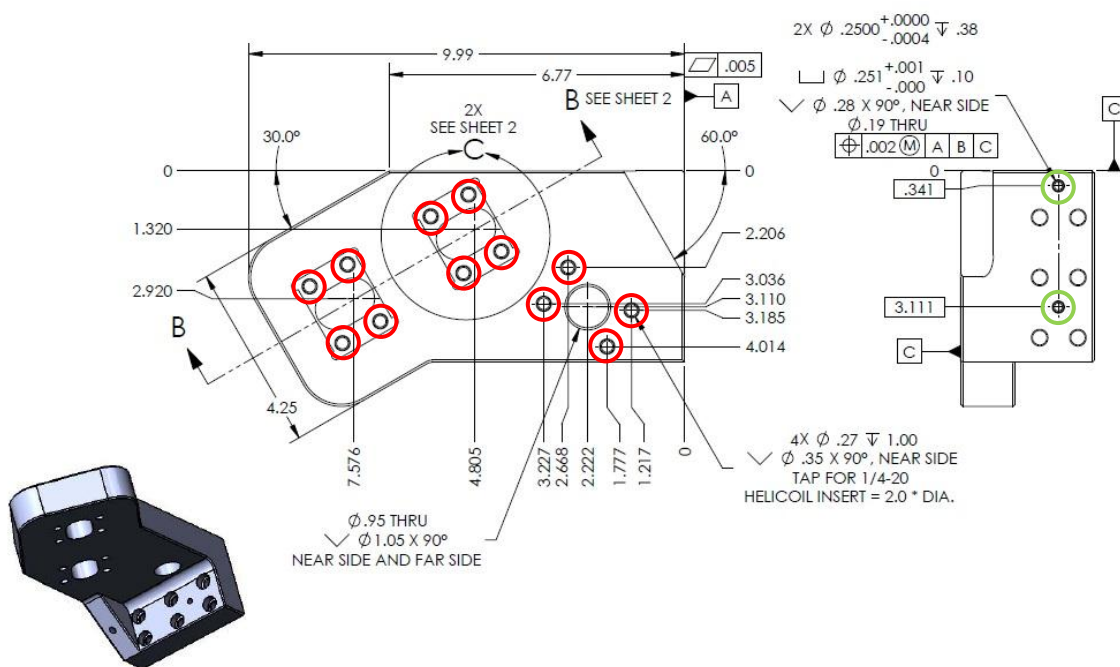

Figure 104: Prep Work for D0902488 Pre-Load Bracket
(2) 1/4" x 5/8" dowel pins
- Install Nitronic 60 Helicoil threaded inserts into D0902488 (see red circles on Figure 104).
- Press (2) 1/4" x 5/8" dowel pins into D0902488. Pins should sit about 0.25" above the surface (see green circles on Figure 104).